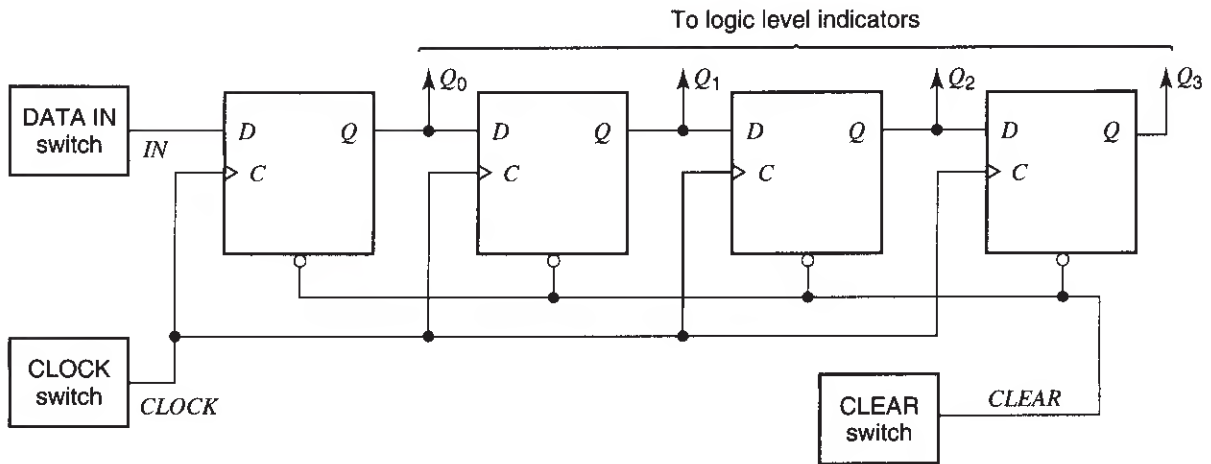

Fig. 7
10. Consider the four-stage shift register in Fig. 7, but do not build it yet. Assume that all outputs are cleared and then a 1 is placed at the input IN . Assume that the clock button is pressed and released *once*. What will the values of Q_0 , Q_1 , Q_2 , and Q_3 become? [Hint: When the clock goes from low to high, each flip-flop transfers to its Q the value that existed at its D just before the clock transition; see Fig. 2(b).]
11. Now build the circuit of Fig. 7. All four D flip-flops needed can be found inside the same 74LS175 chip, the pin assignment for which was given in Fig. 4. It will help if, before starting to build the circuit, you mark Fig. 7 with the appropriate pin numbers from Fig. 4. Be sure to connect the ground and supply pins. If no logic level indicators are provided on your breadboard, use four indicators of the type shown in Fig. 5.
19. Lower the frequency of the signal to 1 Hz. *Disconnect the clock switch circuit from the input of the shift register of Fig. 7, and connect instead your function generator output to it, as shown in Fig. 8.* The LED at the function generator output should be lighting up 1 time per second.